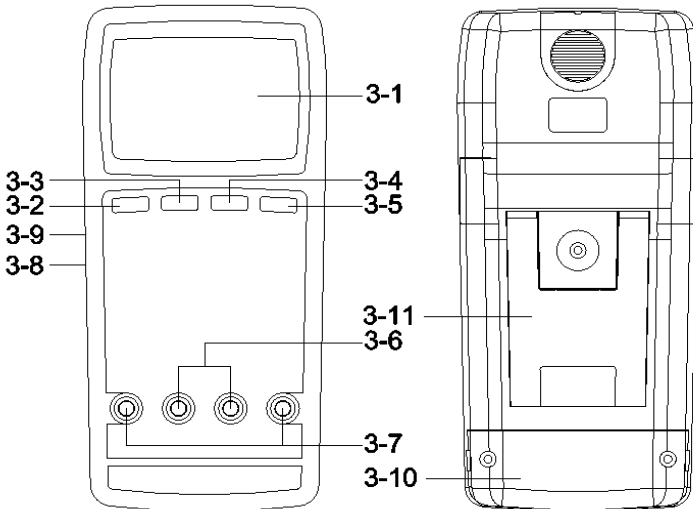

Fig. 1
- 1) Press the POWER button (3-2, Fig. 1) more than 1.5 sec to Turn ON the meter.
- 2) Press the POWER button (3-2, Fig. 1) more than 1.5 sec to Turn OFF the meter.
- 1) Press the POWER button (3-2, Fig.1) more than 1.5 sec to Turn ON the meter.
- 2) Push the FUNCTION button (3-3, Fig. 1) once then change function for measuring ACV.
- 2) Push the FUNCTION button (3-3, Fig. 1) once then change function for measuring ACA.
- 6) Push the FUNCTION (3-3, Fig. 1) button once then change function for measuring ACV / ACA.
- 9) At the same time. Push the FUNCTION button (3-3, Fig. 1) once then change function for measuring WATT / PF.
During the measurement, press the " Hold Button " (3-4, Fig. 1) once will hold the measured value & the LCD will display a " HOLD " symbol.
- 1) The data record function records the maximum and minimum readings. Press the " REC Button " (3-5, Fig. 1) once to start the Data Record function and there will be a " REC. " symbol on the display.
- a) Press the " REC Button " (3-5, Fig. 1) once, the " REC. MAX. " symbol along with the maximum value will appear on the display.
If intend to delete the maximum value, just press the " Hold Button " (3-4, Fig. 1) once, then the display will show the " REC. " symbol only & execute the memory function continuously.
- b) Press the " REC Button " (3-5, Fig. 1) again, the " REC. MIN. " symbol along with the minimum value will appear on the display.
If intend to delete the minimum value, just press the " Hold Button " (3-4, Fig. 1) once, then the display will show the " REC. " symbol only & execute the memory function continuously.
- 2) If the instrument is working. Press the POWER button (3-2, Fig. 1) once, can turn ON the Backlight.
- 2) To de-activate this feature, Select the memory record function during measurement, by pressing the " Record button " (3-5, Fig. 1).
The instrument has RS232 PC serial interface via a 3.5 mm terminal (3-8, Fig. 1).